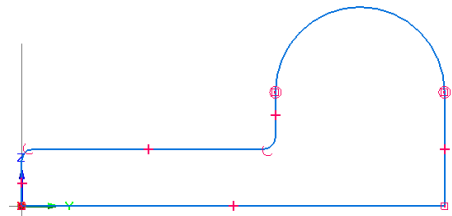

Figure 2-46 Fillets created in the model
4. Similarly, move the cursor over the corner where the upper horizontal line intersects the vertical line originating from the left endpoint of the arc. Now, click to select this corner; a fillet is created at this corner. Figure 2-46 shows the fillets created in the model.